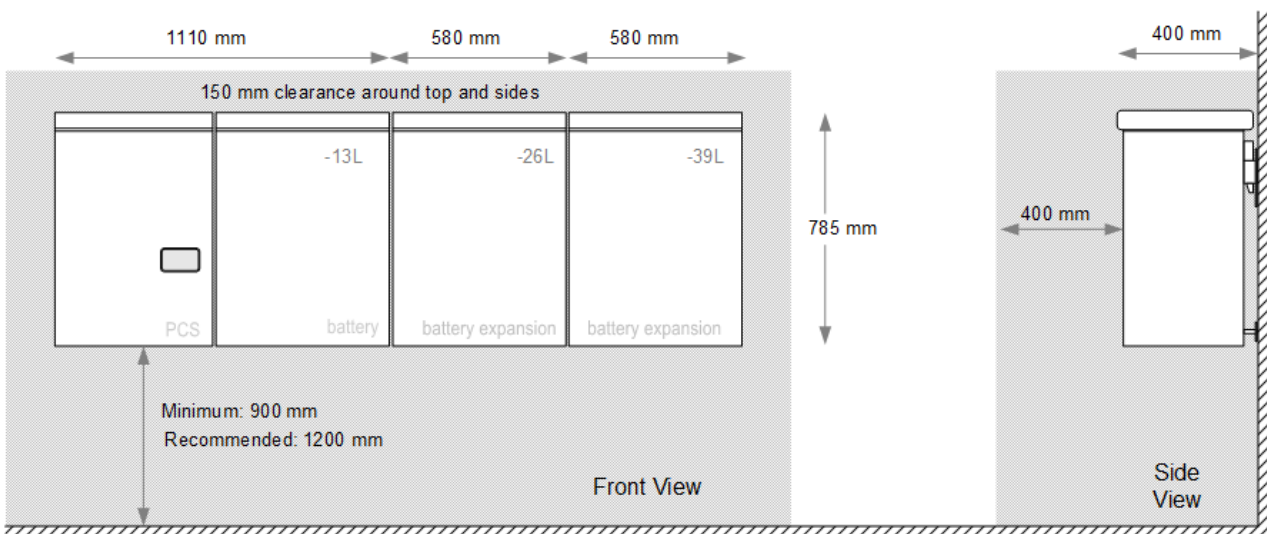

Figure 1: Installation clearances.
2. The forced air cooling of the PCS cabinet is from bottom to top. Refer to figure 1 for recommended layout plan.